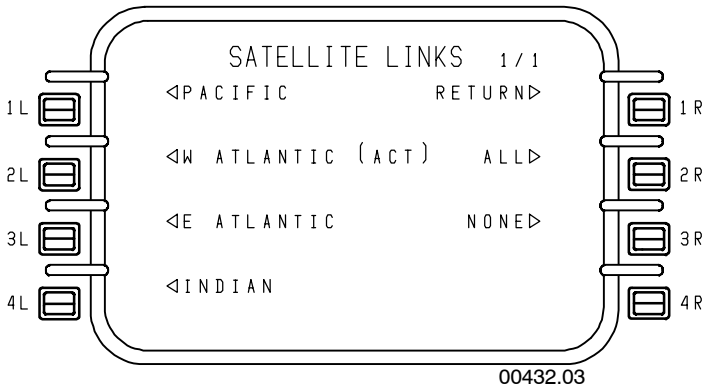

Figure 6-70
- **SATELLITE LINKS 1/1** - Figure 6-70 is used by the pilot to select a satellite link. The active link is designated with active mode (ACT). In addition, ALL or NONE of the satellite links can be selected active. RETURN displays the AFIS CONFIG 1/2 page.